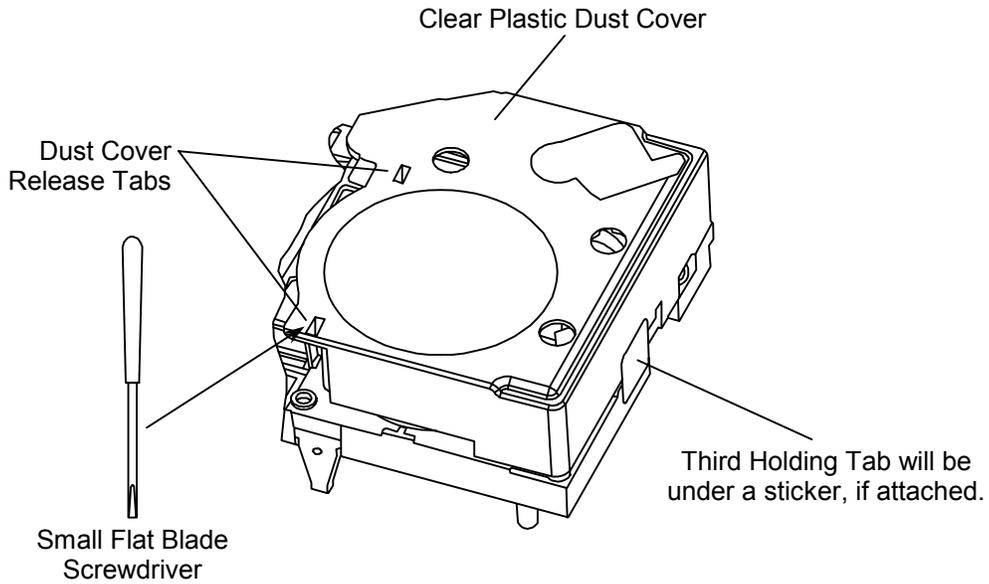

Figure 5-22 Quantum DLT Tape Drive Dust Cover
6. Locate the clear plastic dust cover over the take-up reel (Figure 5-22). Some older tape drives may have a warranty sticker on the rear of the drive. Ignore the message on the sticker and remove it. Locate the two rectangular slots near the front of the plastic cover. Insert a small flat screwdriver into each slot, gently pry each tab, and lift the front of the cover. A third holding tab is located at the rear of the drive, which can be pried open with just a finger. The back panel of the Tape Drive Assembly can be detached if more room is required to open the third holding tab. See steps 7 and 8 if detaching the back panel. If not, proceed to step 9.